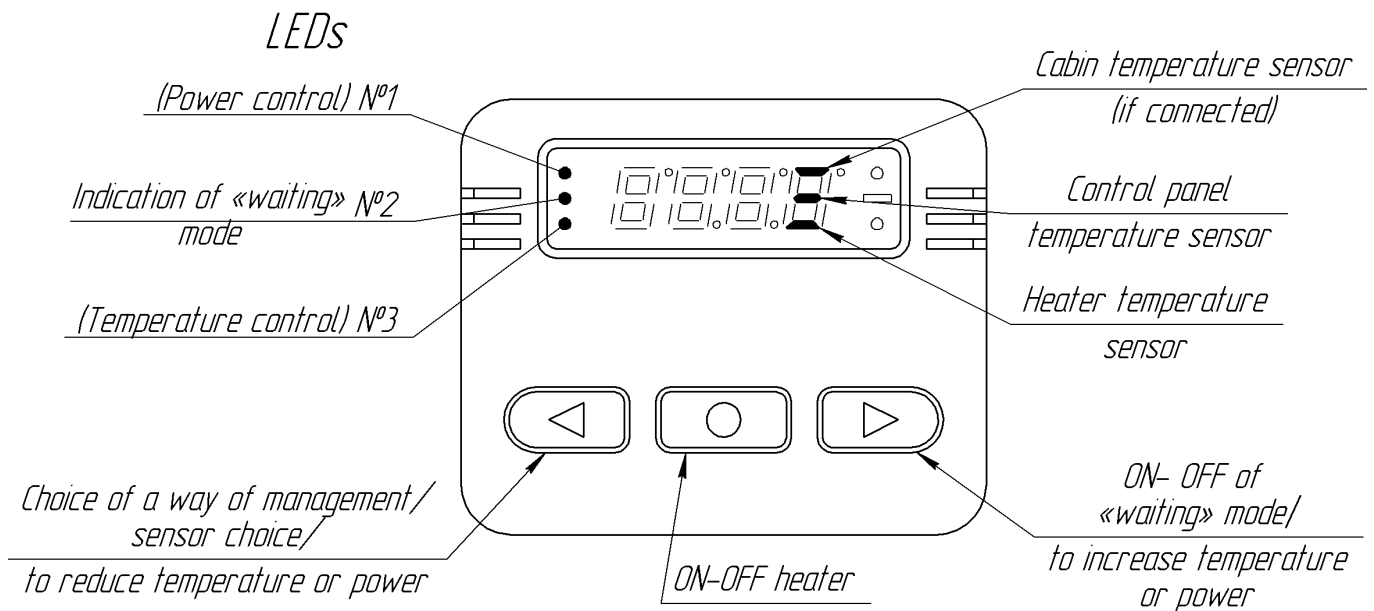

Fig. 6.2- Control panel «IIY-16M»
6.2.1 The front board of the panel contains: four-digit light emitting diode (LED) indicator, three LEDs and three knobs. Functionality of the knobs and LEDs. (fig.6.2)
While first time the heater is connected to electric circuit of the car or after breaks of power supply, according to environmental temperature there will be following information on the panel (for example)- the temperature in the area of the sensor installed in the heater is -12°C , if the temperature in the area of the sensor is above zero, there will be no "mines" before the figure. Movement according to the main menu is carried out by the button « \leftarrow » (fig.6.2)